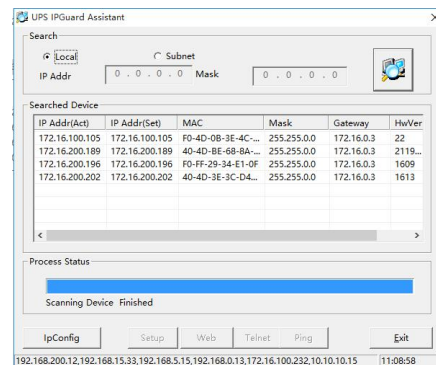

Figure 7
⑥ As shown in Figure 7, the newly set IP will take effect after the device is restarted. Re